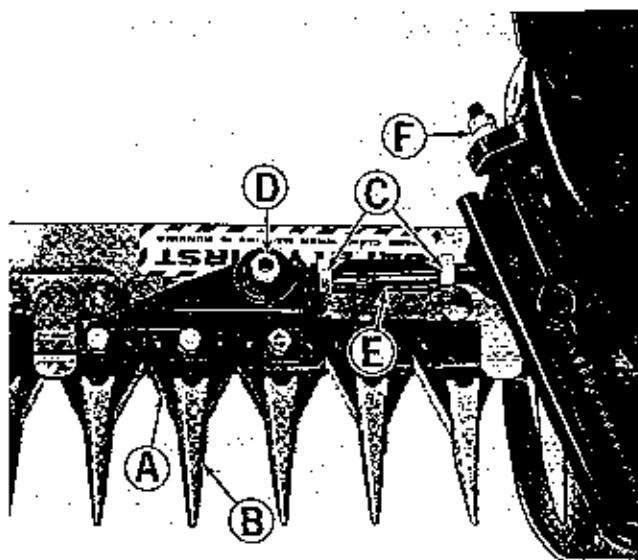

Figure 10. Sickle knife registered in sickle bar.
See figure 10. To operate most efficiently the sickle knives (A) must center in the guards (B) as shown when the sickle drive mechanism is turned so that the sickle knife is as far to the right as it will go. If adjustment is required, proceed as follows:
1. See figure 10. Rotate the sickle drive pulley by hand until the sickle knife is as far to the right as it will go. **CAUTION: USE CARE WHEN WORKING AROUND THE CUTTER BAR ASSEMBLY. THE KNIVES AND GUARDS ARE VERY SHARP.**
2. Use a wrench to loosen the two nuts (C).
3. Remove nut (D) and lift the outer end of the rod end assembly off of the bolt stud.
4. Move the sickle knife until section A is lined up as shown with the nearest guard (B).
6. Reinstall the rod end over the stud and replace nut (D). Tighten nut (D) securely.
7. The amount of thread on the outside of the two nuts (C) should be equal. Before tightening them, rotate coupling (E) as necessary to center it. Tighten the two nuts (B) securely
To get maximum life and service from your sickle bar mower, the cutter knife (Figure 10, Item A) should be lubricated about once every hour with 30 weight engine oil. At this time the ball joints should also be lubricated with 30 weight engine oil. They are located as follows: